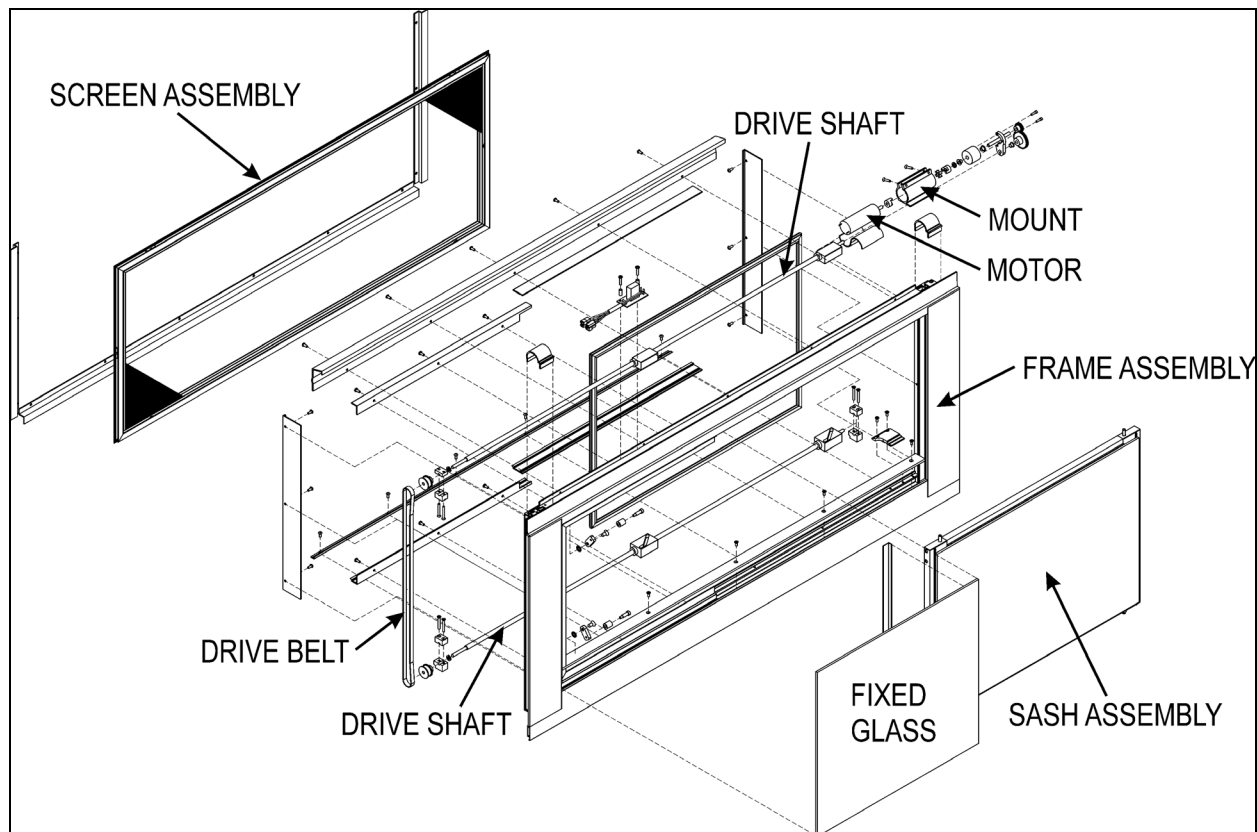

FIGURE 46: ELECTRIC SLIDING WINDOW EXPLODED VIEW
4. Loosen the set screws #5 (Figure 46) (rotate the arm to get to the second set screw) and disengage the swiveling arm from the motor shaft extension.